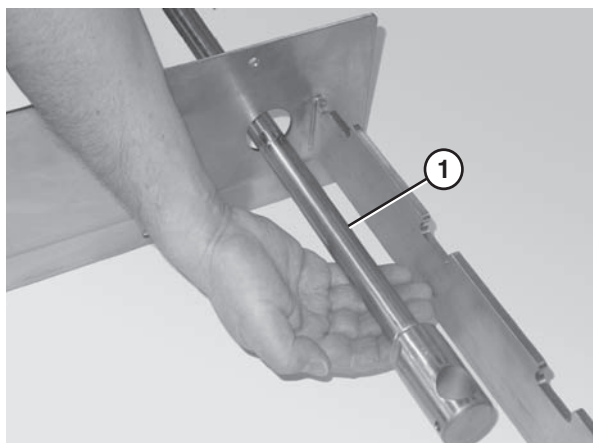

Figure 17
1. Slide the tip up shaft (**Figure 17, item 1**) through the designated slots in the frame.